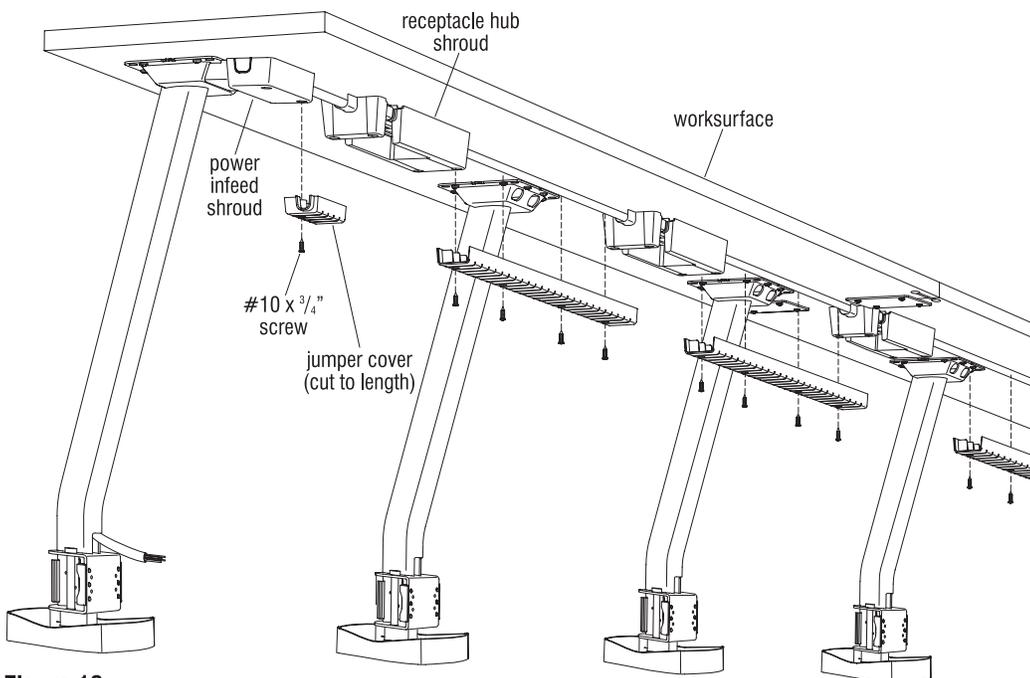

Figure 13
29. Position the correctly sized cover up between the receptacle hub and/or power infeed shrouds, centered over the receptacle jumper. At mounting hole locations along the length of the jumper cover, insert #10 x 3/4" screws and secure the cover to the underside of the worksurface. Do not over-tighten, torque the screws to 25 in/lb (Figure 13).